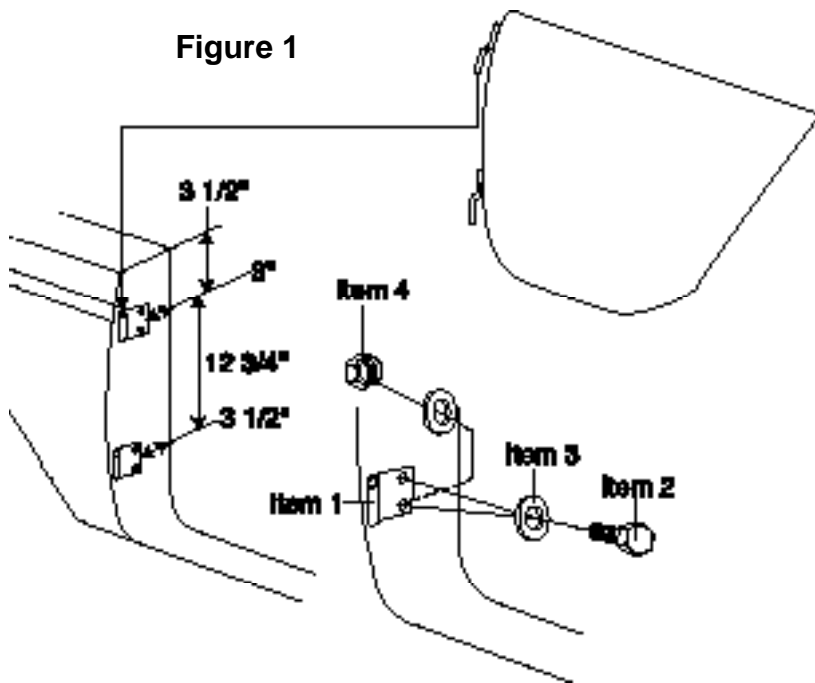

Figure 1
Step 1. Body Hinges. Measure 3" in from the inside of the body to the inside of the body hinge (Item 1) and 3 1/2" from top of body to top of body hinge. Using body hinge as a template mark and drill two 1/4" holes. Place 1/4-20 x 3/4" hex bolt (Item 2) through 1/4" flat washer (Item 3), body hinge, hole in vehicle and another 1/4" flat washer. Secure with 1/4-20 lock nut (Item 4). Leave fasteners loose until doors are installed to make sure of a proper fit. Measure 12 3/4" from top of upper body hinge to top of lower body hinge and 3 1/2" from inside of body edge. Mark and drill 1/4" holes using body hinge as a template. Secure with nuts, bolts and washer as above. Repeat for the other side. See figure 1.
Step 2. Door Retainer. Slip door hinges on door into body hinges. See figure 1. Measure 5" down from top of body edge at rear of door opening and 3 3/8" from inside of body edge. Mark and drill 1/4" hole. Place door retainer (Item 5) over hole in body. Place 1/4-20 x 3/4" hex bolt through 1/4" flat washer (Item 2), door retainer, hole in body and another 1/4" flat washer. Secure with 1/4-20 lock nut (Item 4). Do not fully tighten at this time. Close the door against the retainer, making sure that the door is the same distance from body all the way around the door opening. Swing the bottom of the retainer to come in contact with the door. Using the retainer as a template make and drill a 1/4" hole for the lower hole of retainer. Secure using same method as above. Tighten all fasteners at this time. Repeat for the other side. See figure 2.